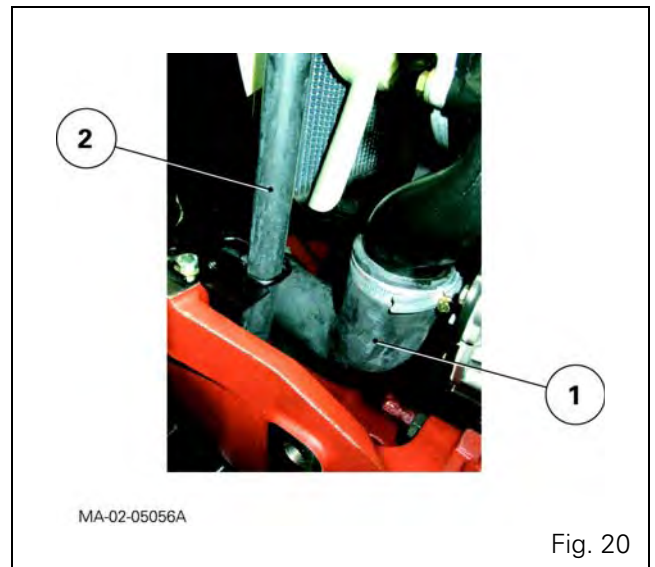

Fig. 20
44. Disconnect the lower radiator hose (1) and the hose (2) linking the expansion tank to the base of the radiator (Fig. 20).